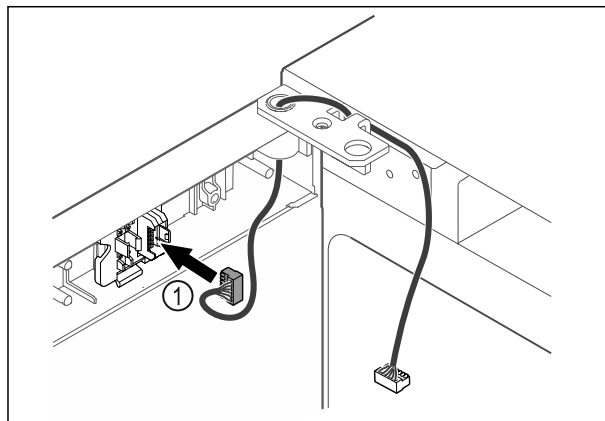

Fig. 49
- ▶ Put the plug Fig. 49 (1) in the plug holder.